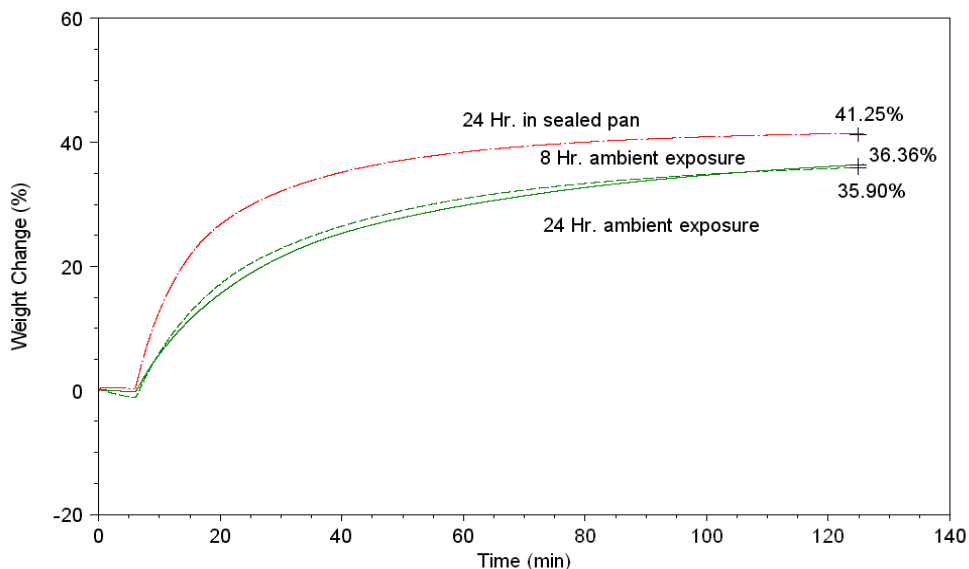

Figure 9. Dried PVP after Exposure to Ambient Conditions
Polyvinylpyrrolidone (PVP) is a well-known material used for moisture sorption verification. It is hygroscopic and gains 42 % +/- 2 % of moisture when exposed to a relative humidity (RH)  $\geq$  80 %. Figure 9 shows Q5000 SA results on PVP when held at 25 °C and 80 %RH. The green plots represent PVP loaded in open pans, which were left in the autosampler for 8 and 24 hours prior to analysis. The red plot represents PVP